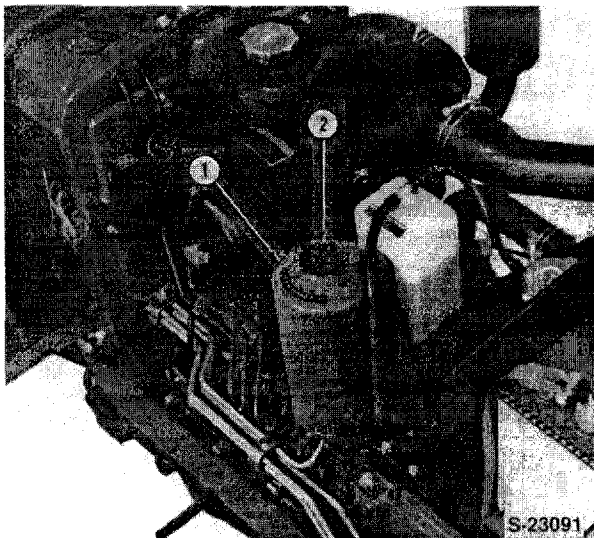

Figure 30
1. Remove the reservoir tank dipstick-filler cover (2), Figure 30, and using a suction pump, suck the oil out of the reservoir tank.